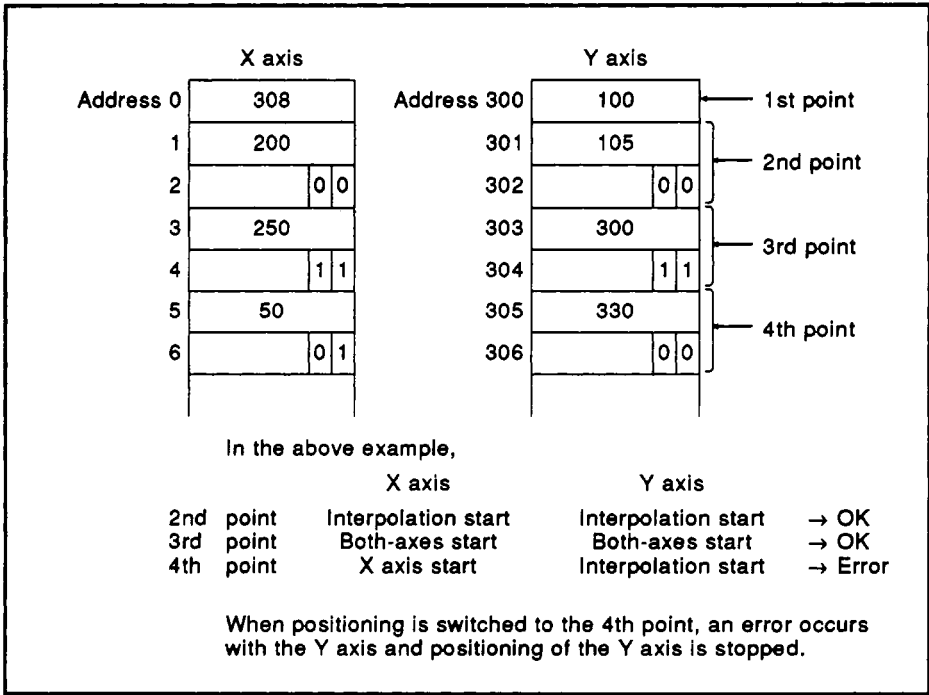

Fig. 3.31 Start Data Example 1
- 1) When both axes are to be started together (i.e. interpolation setting 00 or independent setting 11) ensure that the start axis data matches for both X and Y axes at that point. Processing will stop if the data does not match. Refer to Fig. 3.31.